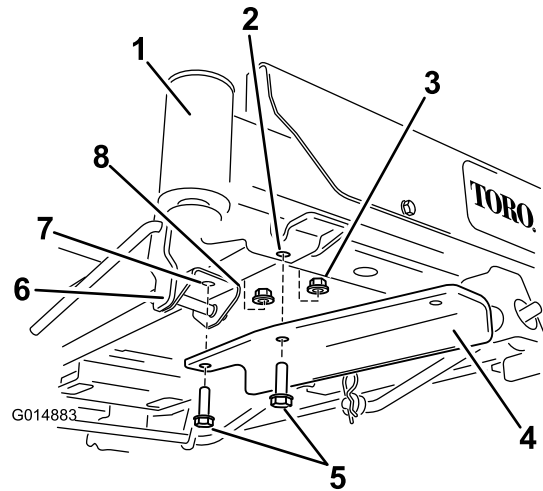

Figure 7
- For machines with a foot-assist lift pedal, Remove the forward fasteners in the foot-assist lift pedal bracket and secure the bracket using 2 bolts and 2 lock nuts (Figure 7).